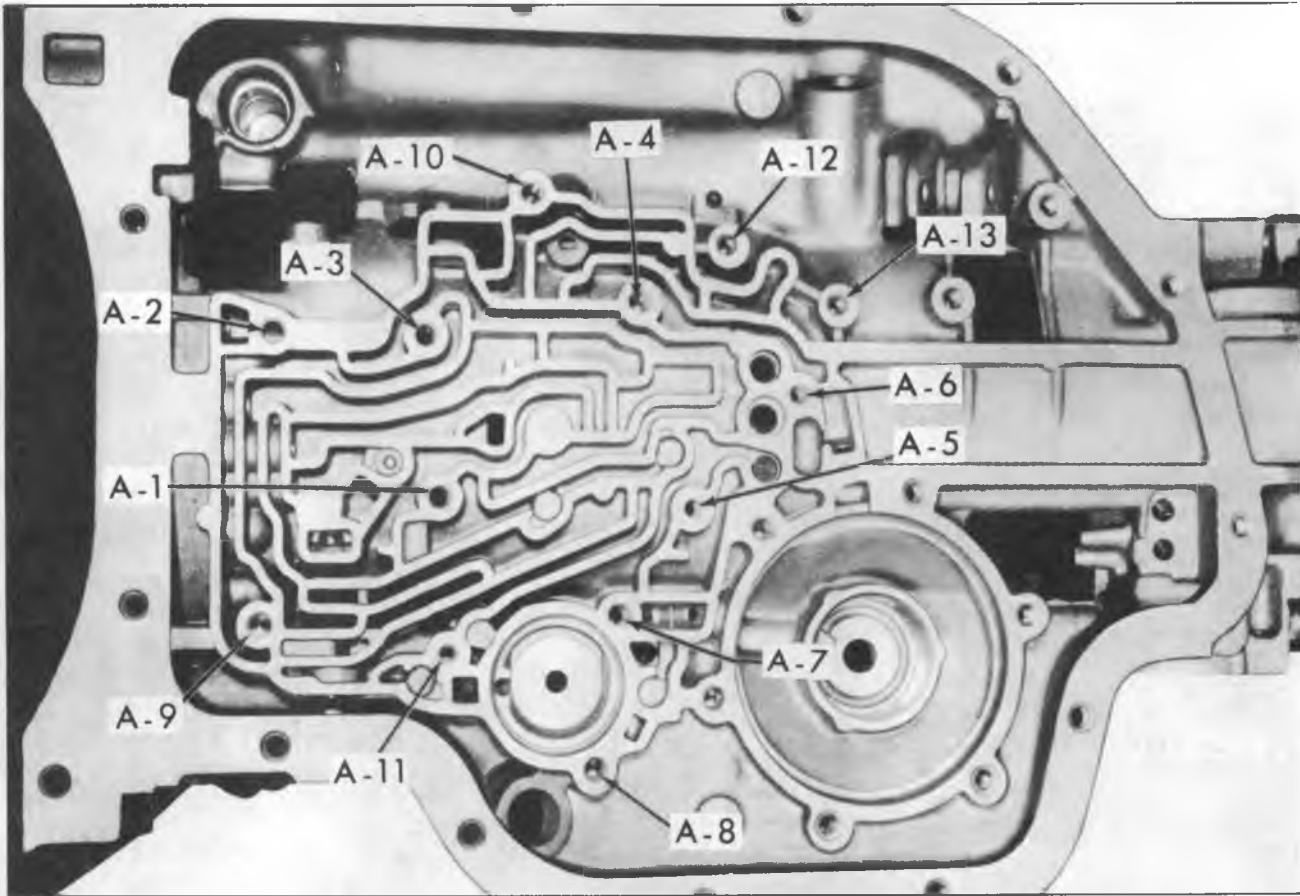

Figure 104A—Bolt Hole Identification
1. Refer to figure 104A and tabulation which follows for bolt hole identification, drill size, tap size, and heli-coil size.